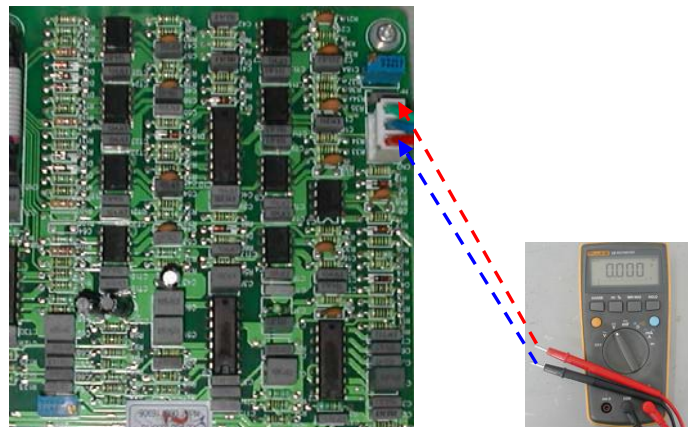

Figure 5-18 Inverter output sampling voltage test
H. Close the power breaker, test the voltage between CN1-1P and 3P, it should have a rise period, and stabilize at about 30Vac, as shown in figure 5-18. Test the voltage between any two upper pins of the bypass breaker with a multimeter, the value should be 20~30Vac, else the bypass SCR or its control board should be damaged.
- ② **Inverter output over voltage diagnosis program :**
A. Press panel “off” key to turn off the UPS, test the voltage between CN2-1P and 3P on the PWM board, as shown in figure 5-18, press panel “on” key to turn on the UPS, the voltage tested should rise and stabilize at about 30Vac at last during the start process.